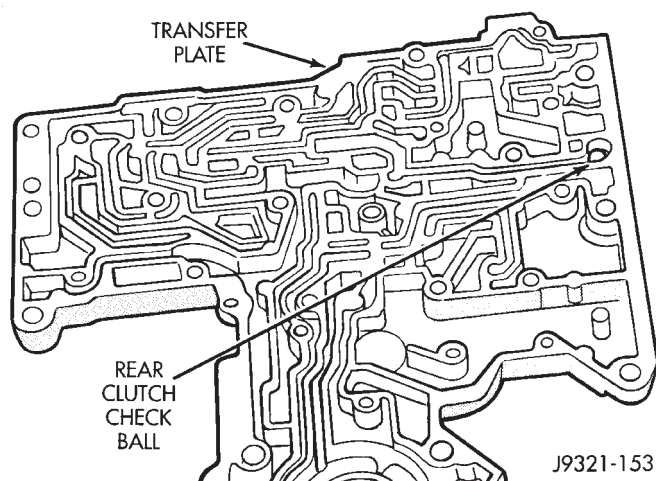

Fig. 110 Rear Clutch Check Ball Location—46RH
(25) Remove rear clutch check ball from transfer plate. **Note check ball location for assembly reference before removing it (Fig. 110).**
- (1) Install rear clutch check ball in transfer plate (Fig. 110).